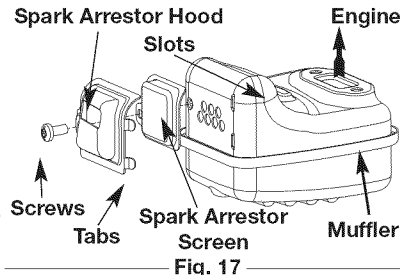

Fig. 17
2. Locate the muffler, **but do not remove it**. Find the screw on the bottom of the muffler (Fig. 17). This screw holds the Spark Arrestor Hood Assembly and the spark arrestor screen to the bottom of the muffler. Remove this screw using either a Torx T20 or flat blade screwdriver.
6. Place the spark arrestor hood on top of the spark arrestor plate with the "raised" side up and the opening facing AWAY from the engine (Fig. 17). Verify that the exhaust will be directed AWAY from the engine.